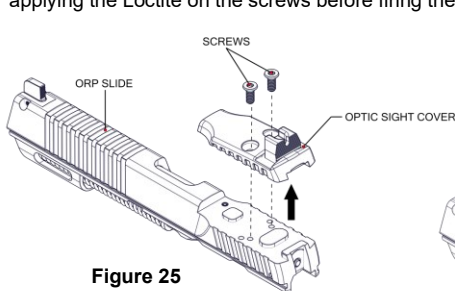

Figure 25
1. Unscrew the cover screws on the ORP Slide to remove the optic sight cover (Figure 25).